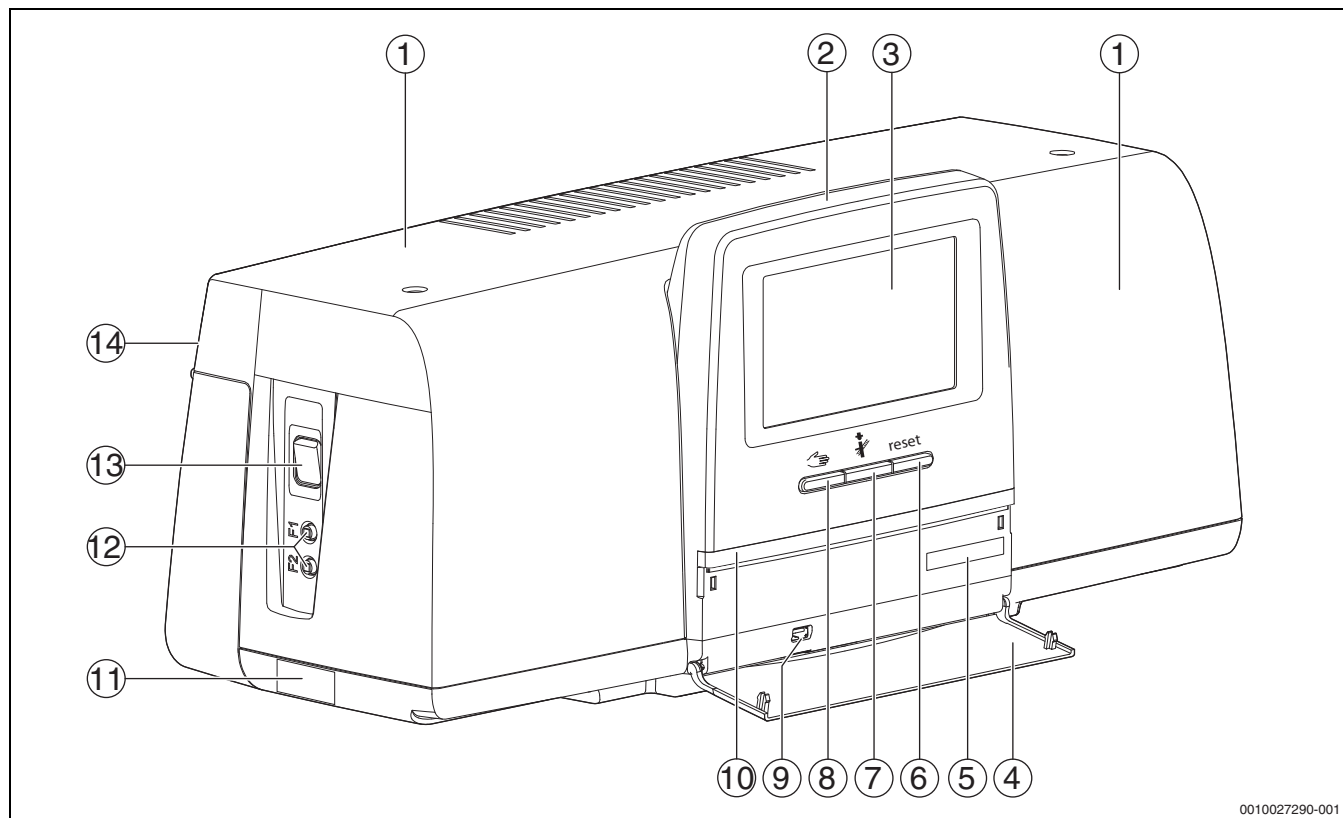

Fig. 6 Overview of the control unit and the control elements
The status of the system, the functions and system components is displayed via the status display (→ Fig. 12, [2], [6], page 12) and the LED status display (→ Fig. 6, [10], page 8):
- Switch control unit On/Off at switch (→ Figure 6, [13], page 8).